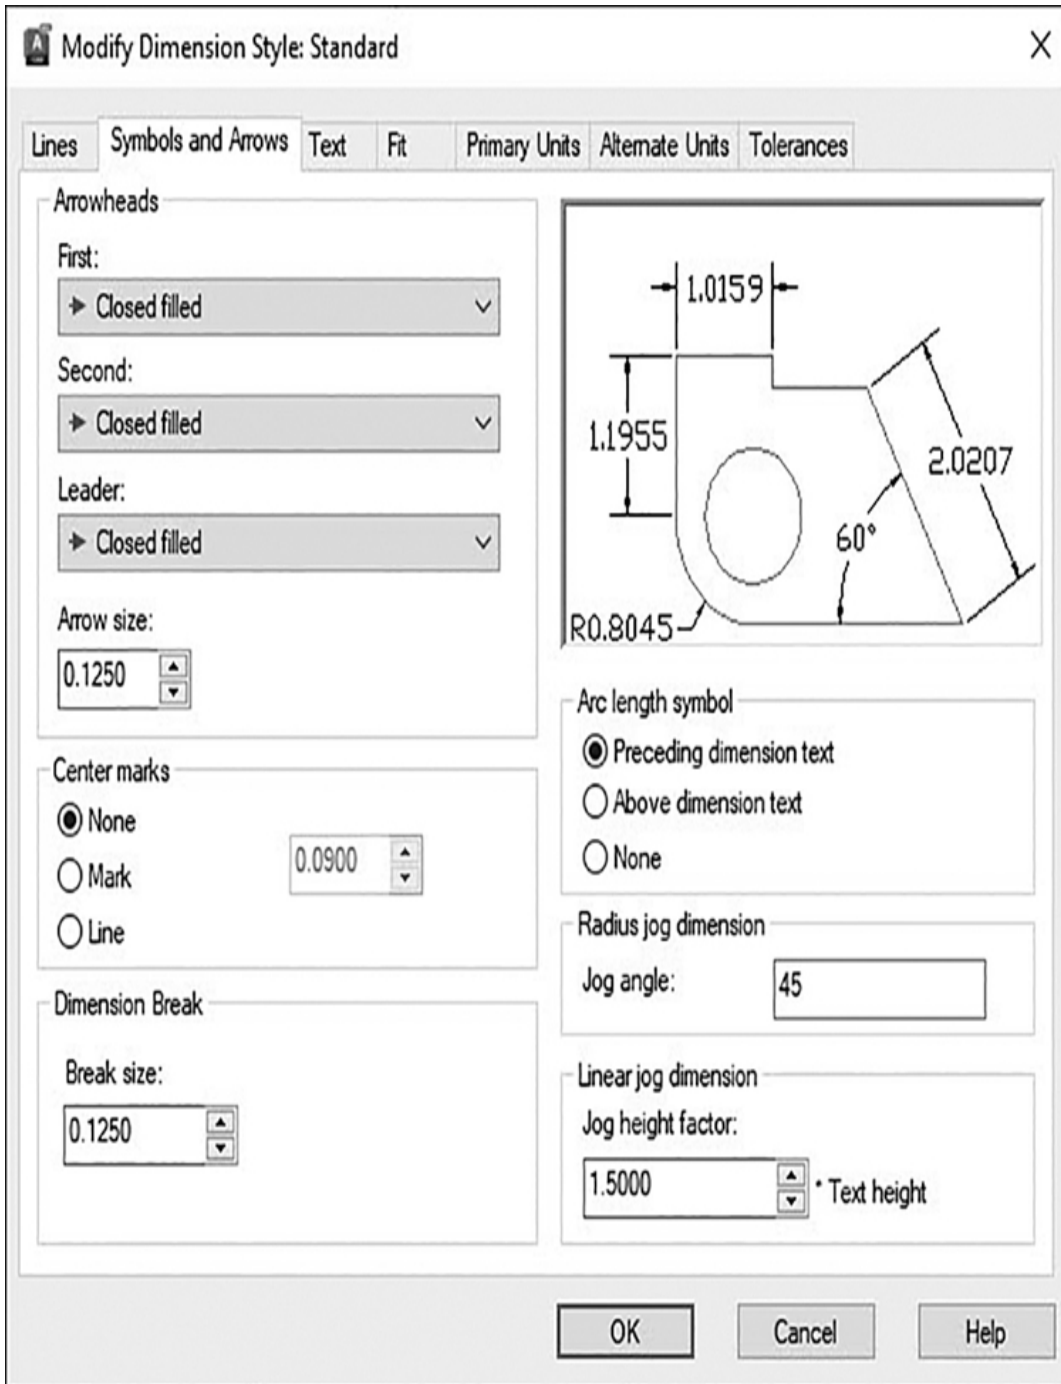

Figure 2-32
- 4 Choose the **Symbols and Arrows** tab and change the **Arrow size** value to **.125**. In the **Center marks** area, change the type to **None** (see Figure 2-32).